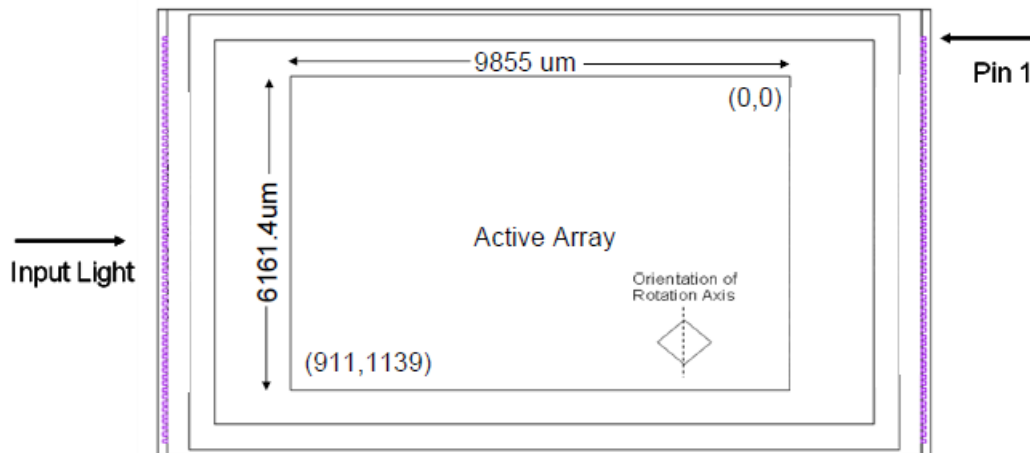

Figure 4. DLP4500NIR Micromirror Active Area
(1) See Micromirror Array, Pitch, and Hinge-Axis Orientation.
(2) See Micromirror Active Area in Figure 4.
(3) The mirrors that form the array border are hard-wired to tilt in the –12° (“Off”) direction once power is applied to the DMD (see Micromirror Array, Pitch, and Hinge-Axis Orientation and Micromirror Landed Positions and Light Paths).